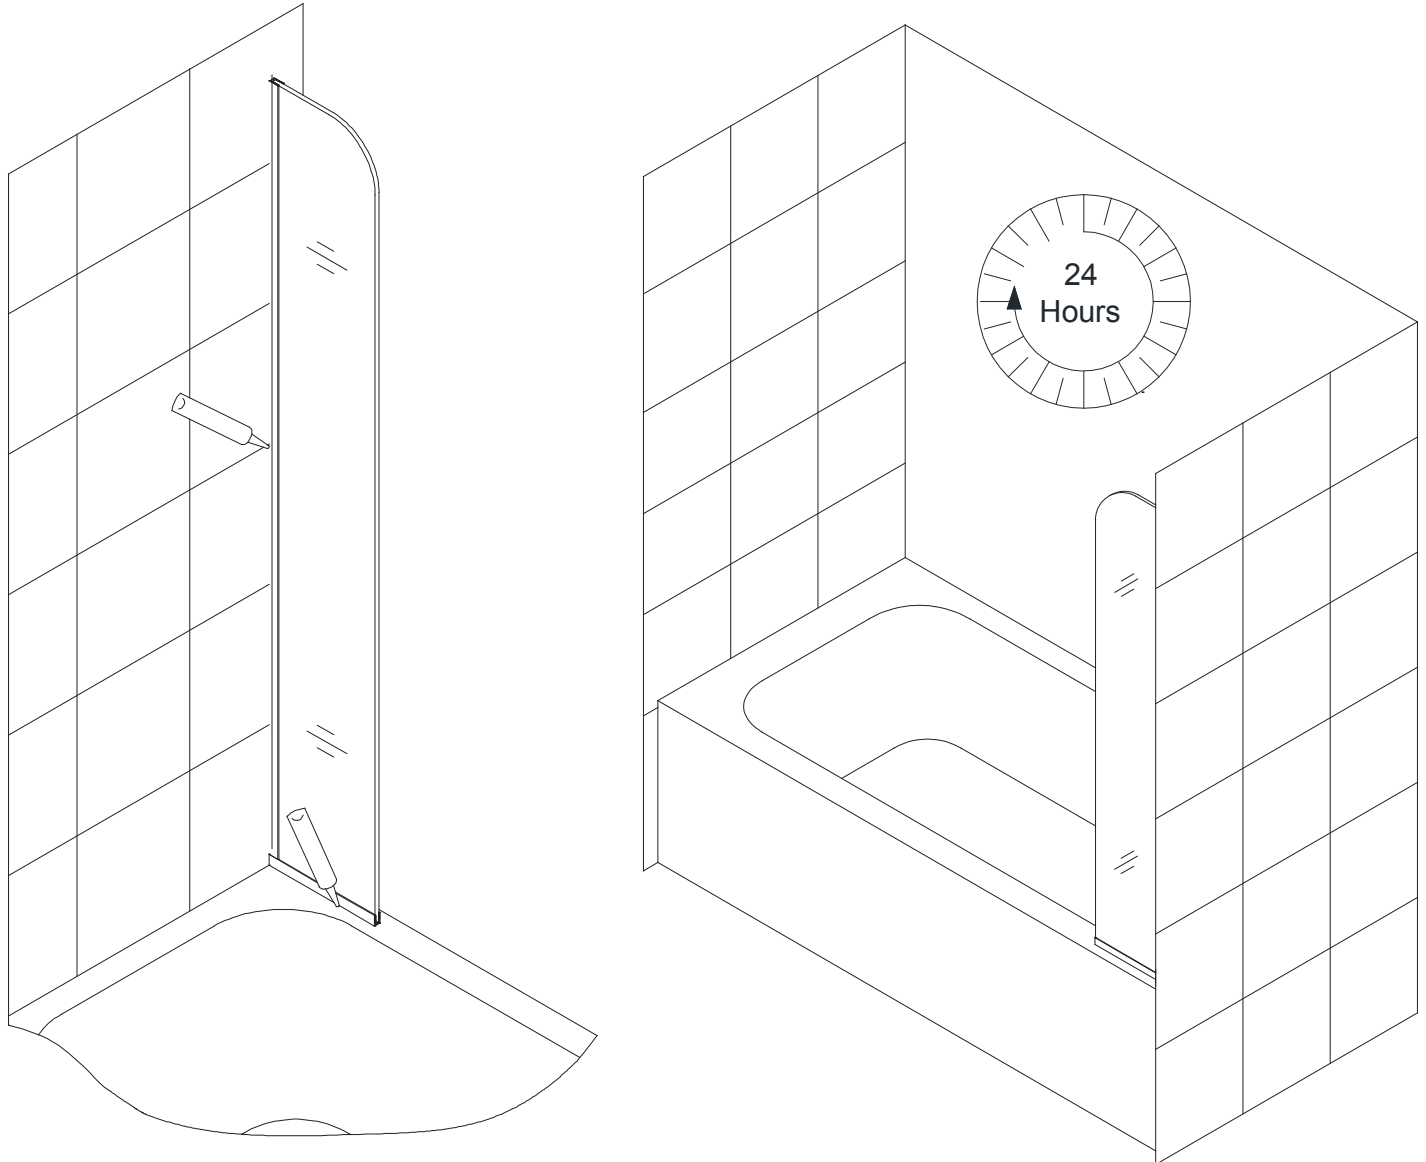

**Fig 6**
**NOTE:** If you have difficulty sliding the **Extender Panel Glass (#03)** into the U-Channels, you can use a small block of wood and a rubber mallet to lightly tap on the Extender glass until the glass is firmly set in the U-Channel. Apply a dab of silicone into both open ends of the U-Channels. **(Fig 6)**